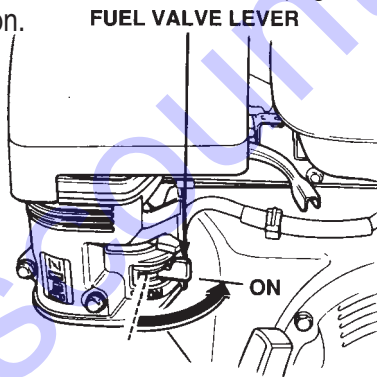

Figure 11. Fuel Shut-Off Lever
1. Move the fuel shut-off lever (Figure 11) to the **ON** position.